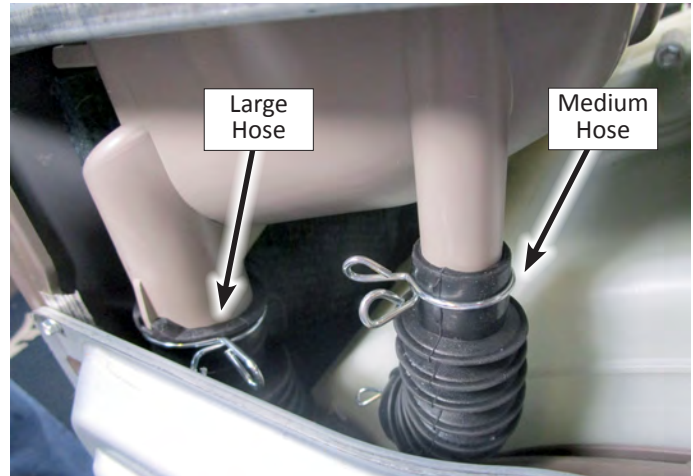

Figure 2
10. Lift up the dispenser assembly. From the front left of the washer/dryer, remove the large “dispenser to tub” hose. See Figure 2.
11. Next remove the medium tub hose (medium front hose to tub). See Figure 2.